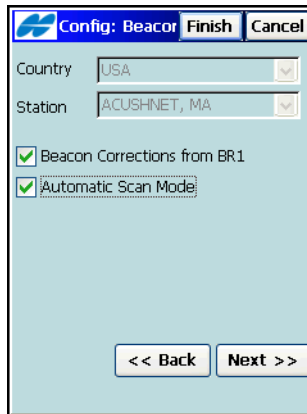

Figure 4-50. Use BR-1
- To use the beacon receiver BR-1 as a source of differential corrections for the rover, select *Beacon Corrections from BR-1* option on the **Config: Beacon** screen (Figure 4-50 on page 4-41).